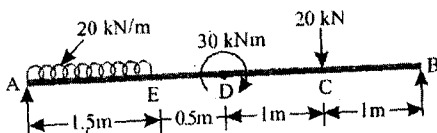

Fig. Q4
4. Calculate the bending moment (BM) & shear force (SF) at A B C D E point as shown in fig Q4. Also draw the BM & SF diagram along the shaft.